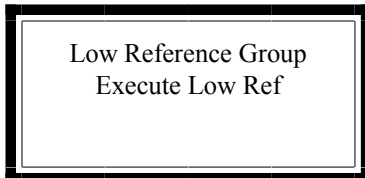

Figure 9b: Executing Low Ref:
- 3) Toggle the “Next” key until you reach the “Execute Low Ref” Menu, Figure 9b, and press the MODify key, and follow the two remaining prompts. (Continue, Ready)